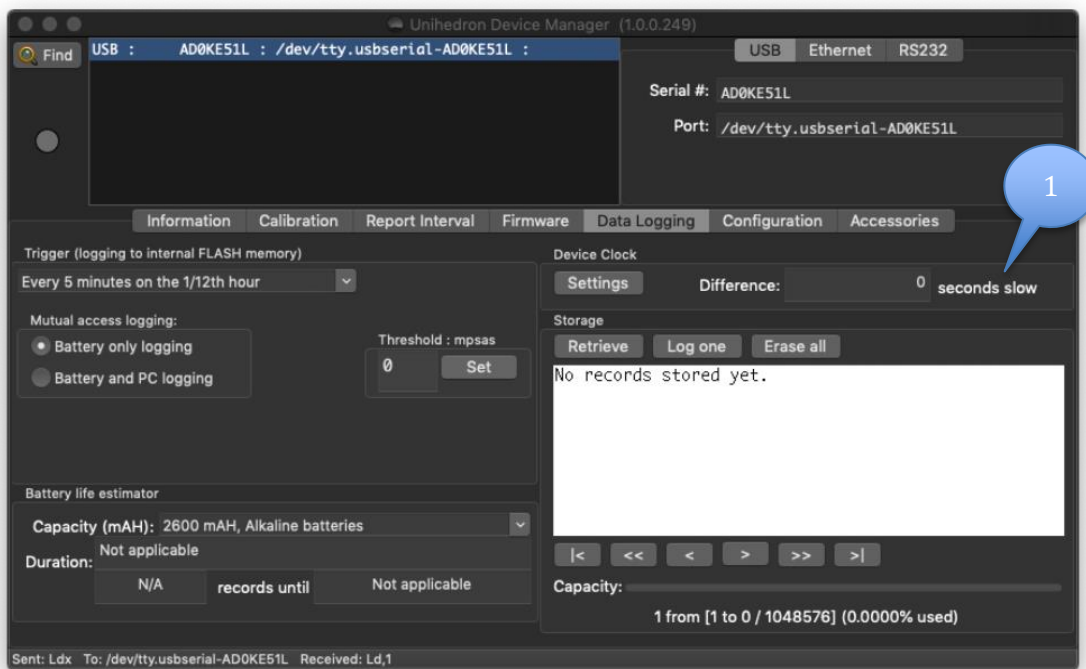

Figure 16: Data Logging window after synchronizing the SQMs real time clock. Note that Difference in the Device Clock box (1) is shown as “0 seconds slow.”
5. Press Close (1) to return to the Data Logging window (*Figure 16*).